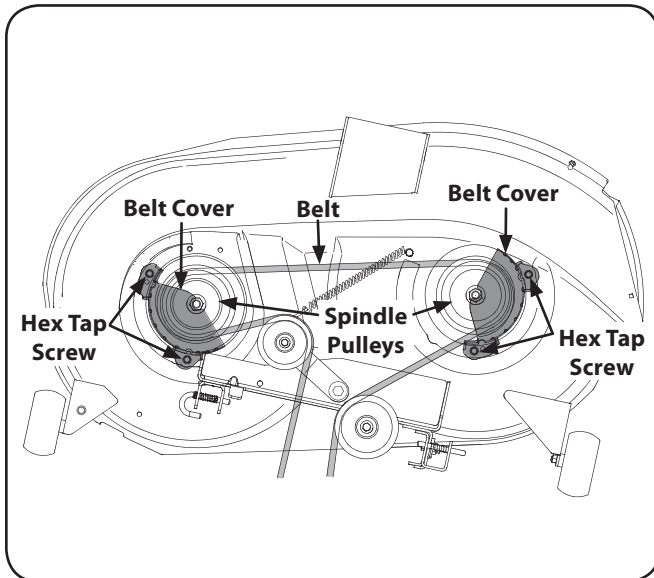

Figure 7-7 (42" deck)
2. Remove the hex tapping screws securing the belt covers to the deck and remove the belt from the spindle pulleys. Refer to Figure 7-7 or 7-8.
3. Install the new belt around the spindle pulleys as shown in Figure 7-7 or 7-8 and reinstall the belt covers.